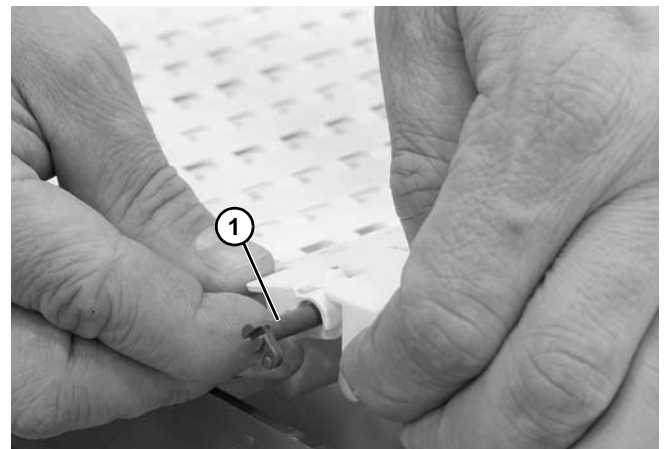

Figure 37
3. Remove the belt rod (Figure 37, item 1).